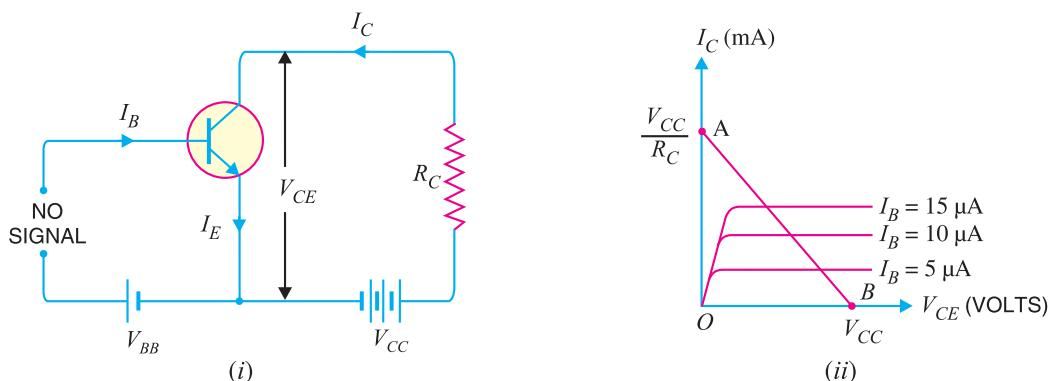

Fig. 8.35
**d.c. load line.** Consider a common emitter *npn* transistor circuit shown in Fig. 8.35 (i) where no signal is applied. Therefore, d.c. conditions prevail in the circuit. The output characteristics of this circuit are shown in Fig. 8.35 (ii).
This gives the first point  $B$  ( $OB = V_{CC}$ ) on the collector-emitter voltage axis as shown in Fig. 8.35 (ii).
This gives the second point  $A$  ( $OA = V_{CC}/R_C$ ) on the collector current axis as shown in Fig. 8.35 (ii). By joining these two points, d.c. \*load line  $AB$  is constructed.